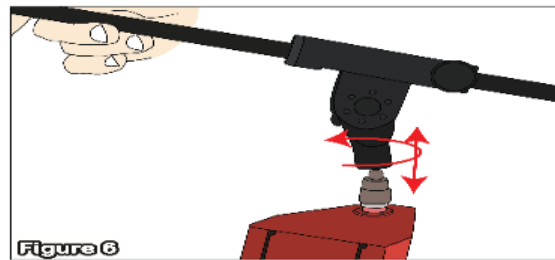

Figure 6
Step 4 – Take the microphone boom adapter and screw on to the top of the red main post. Make sure to attach it vertically at the screw post and not at an angle. This will make it easier to be tightened. (See Figure 6) While screwing it, hold the chrome adapter of the screw post on the red main post and counter the spin of the boom adapter.